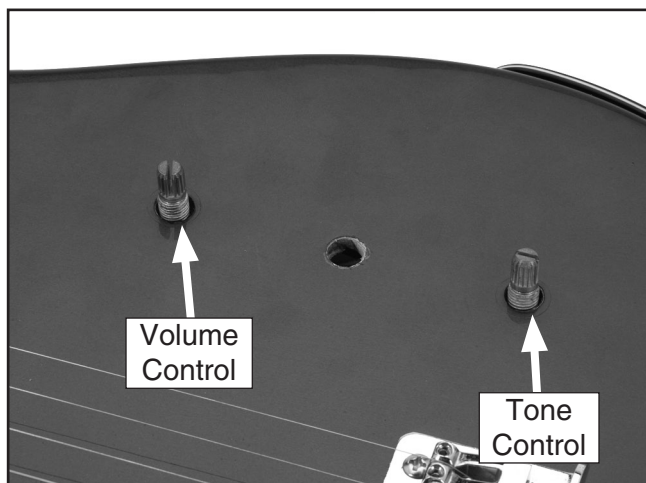

Figure 15. Installing tone and volume controls.
2. Insert the volume and tone controls through the sockets on the guitar body as shown in **Figure 15**.